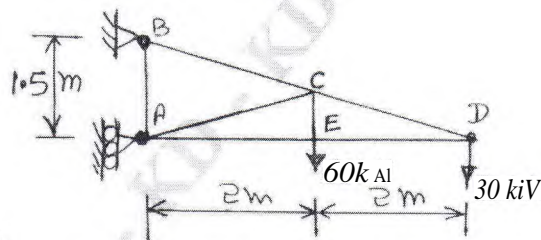

Fig.Q1(c)
- c. Analyse the pin jointed plane truss as shown in Fig.Q1(c) by method of joints and hence tabulate the member forces. (07 Marks)